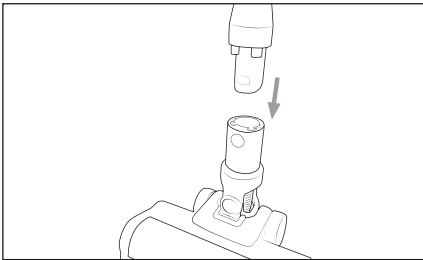

Fig. 2
- 2) Push the suction pipe 23 into the floor brush 20 until it audibly clicks into place (see Fig. 2). Alternatively, you can connect the floor brush 20 to the appliance without the suction pipe 23.